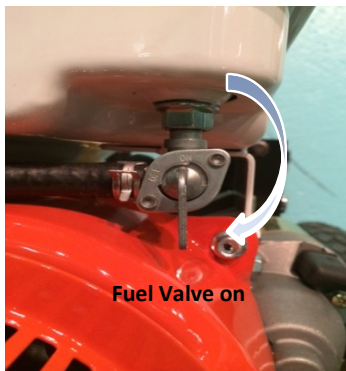
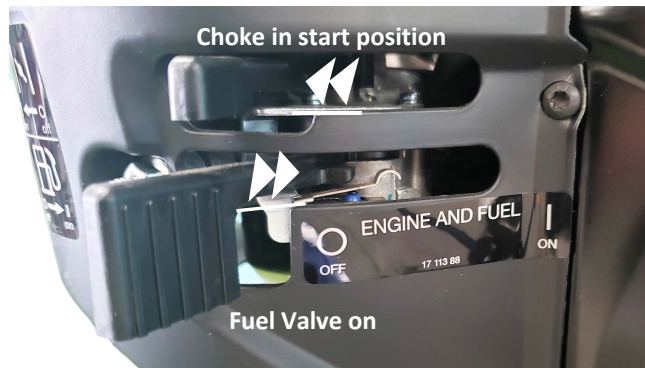

Figure 2
Figure 3
- Move the choke to the “closed” or “start” position. (figure 2 or 4 depending on the type of engine. Consult your engine manual)
- Slide the switch to the “on” position. See figure 2 or rotate ignition switch to the right as shown in figure 3.